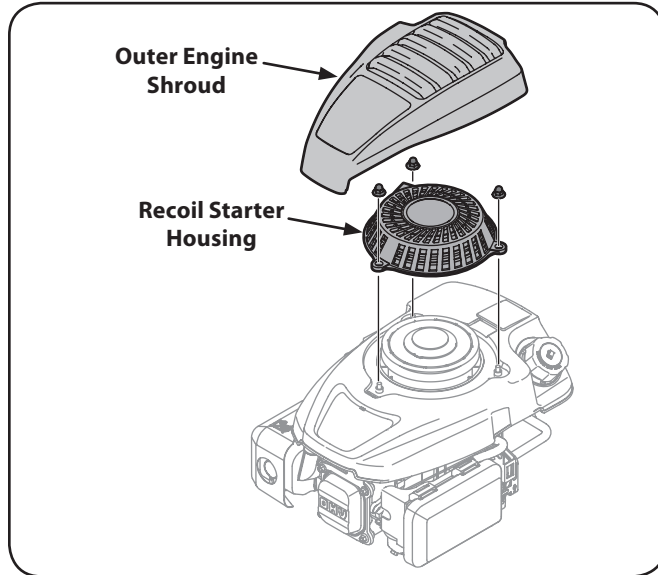

Figure 6-3
1. Remove outer engine shroud (if equipped) and recoil starter housing as shown in Figure 6-3.